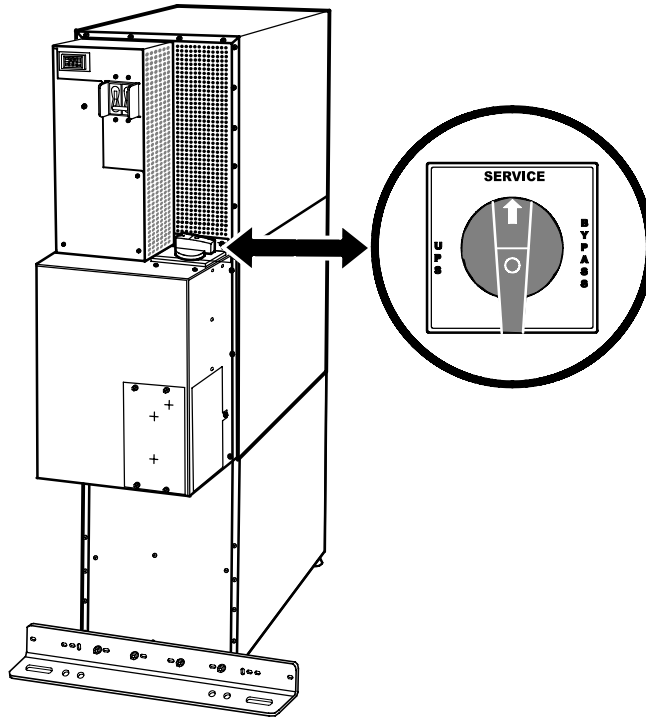

Figure 46. Maintenance Bypass Switch
1. Verify that the maintenance bypass switch is in the UPS position (see Figure 46 on page 79).
The UPS maintenance bypass switch is located on the back of the UPS (see Figure 46).